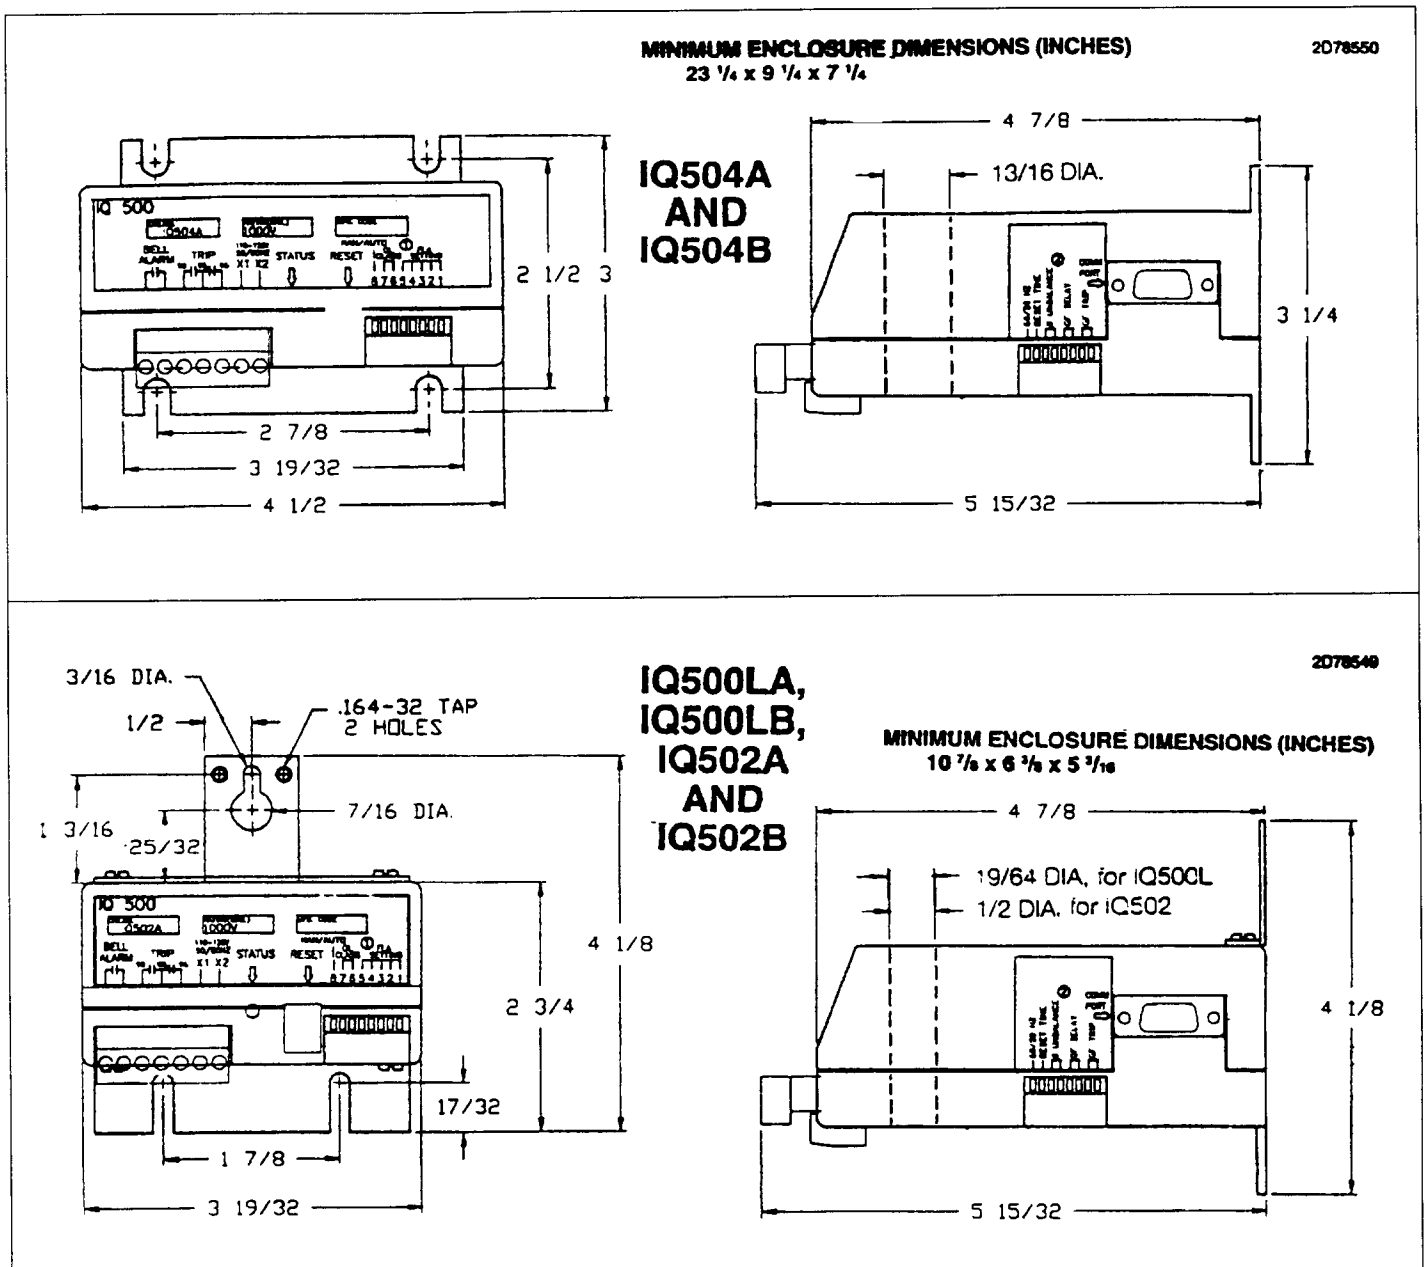

Fig. 5 Outline and Mounting Dimensions (dimensions in inches)
2.3 Mounting – An IQ-500 device is supplied for panel mounting (see Fig. 5 for dimensions). The IQ502 can be converted to mount on a Class A201 Size 1 or 2 contactor. Simply remove the metal mounting bracket from the relay base, rotate it 180 degrees, and reattach it to the relay base. Attach the mounting bracket to the contactor using the hardware included with the relay. The IQ504 can be converted to mount on a Class A201 Size 3 or 4 contactor by attaching the bracket provided.